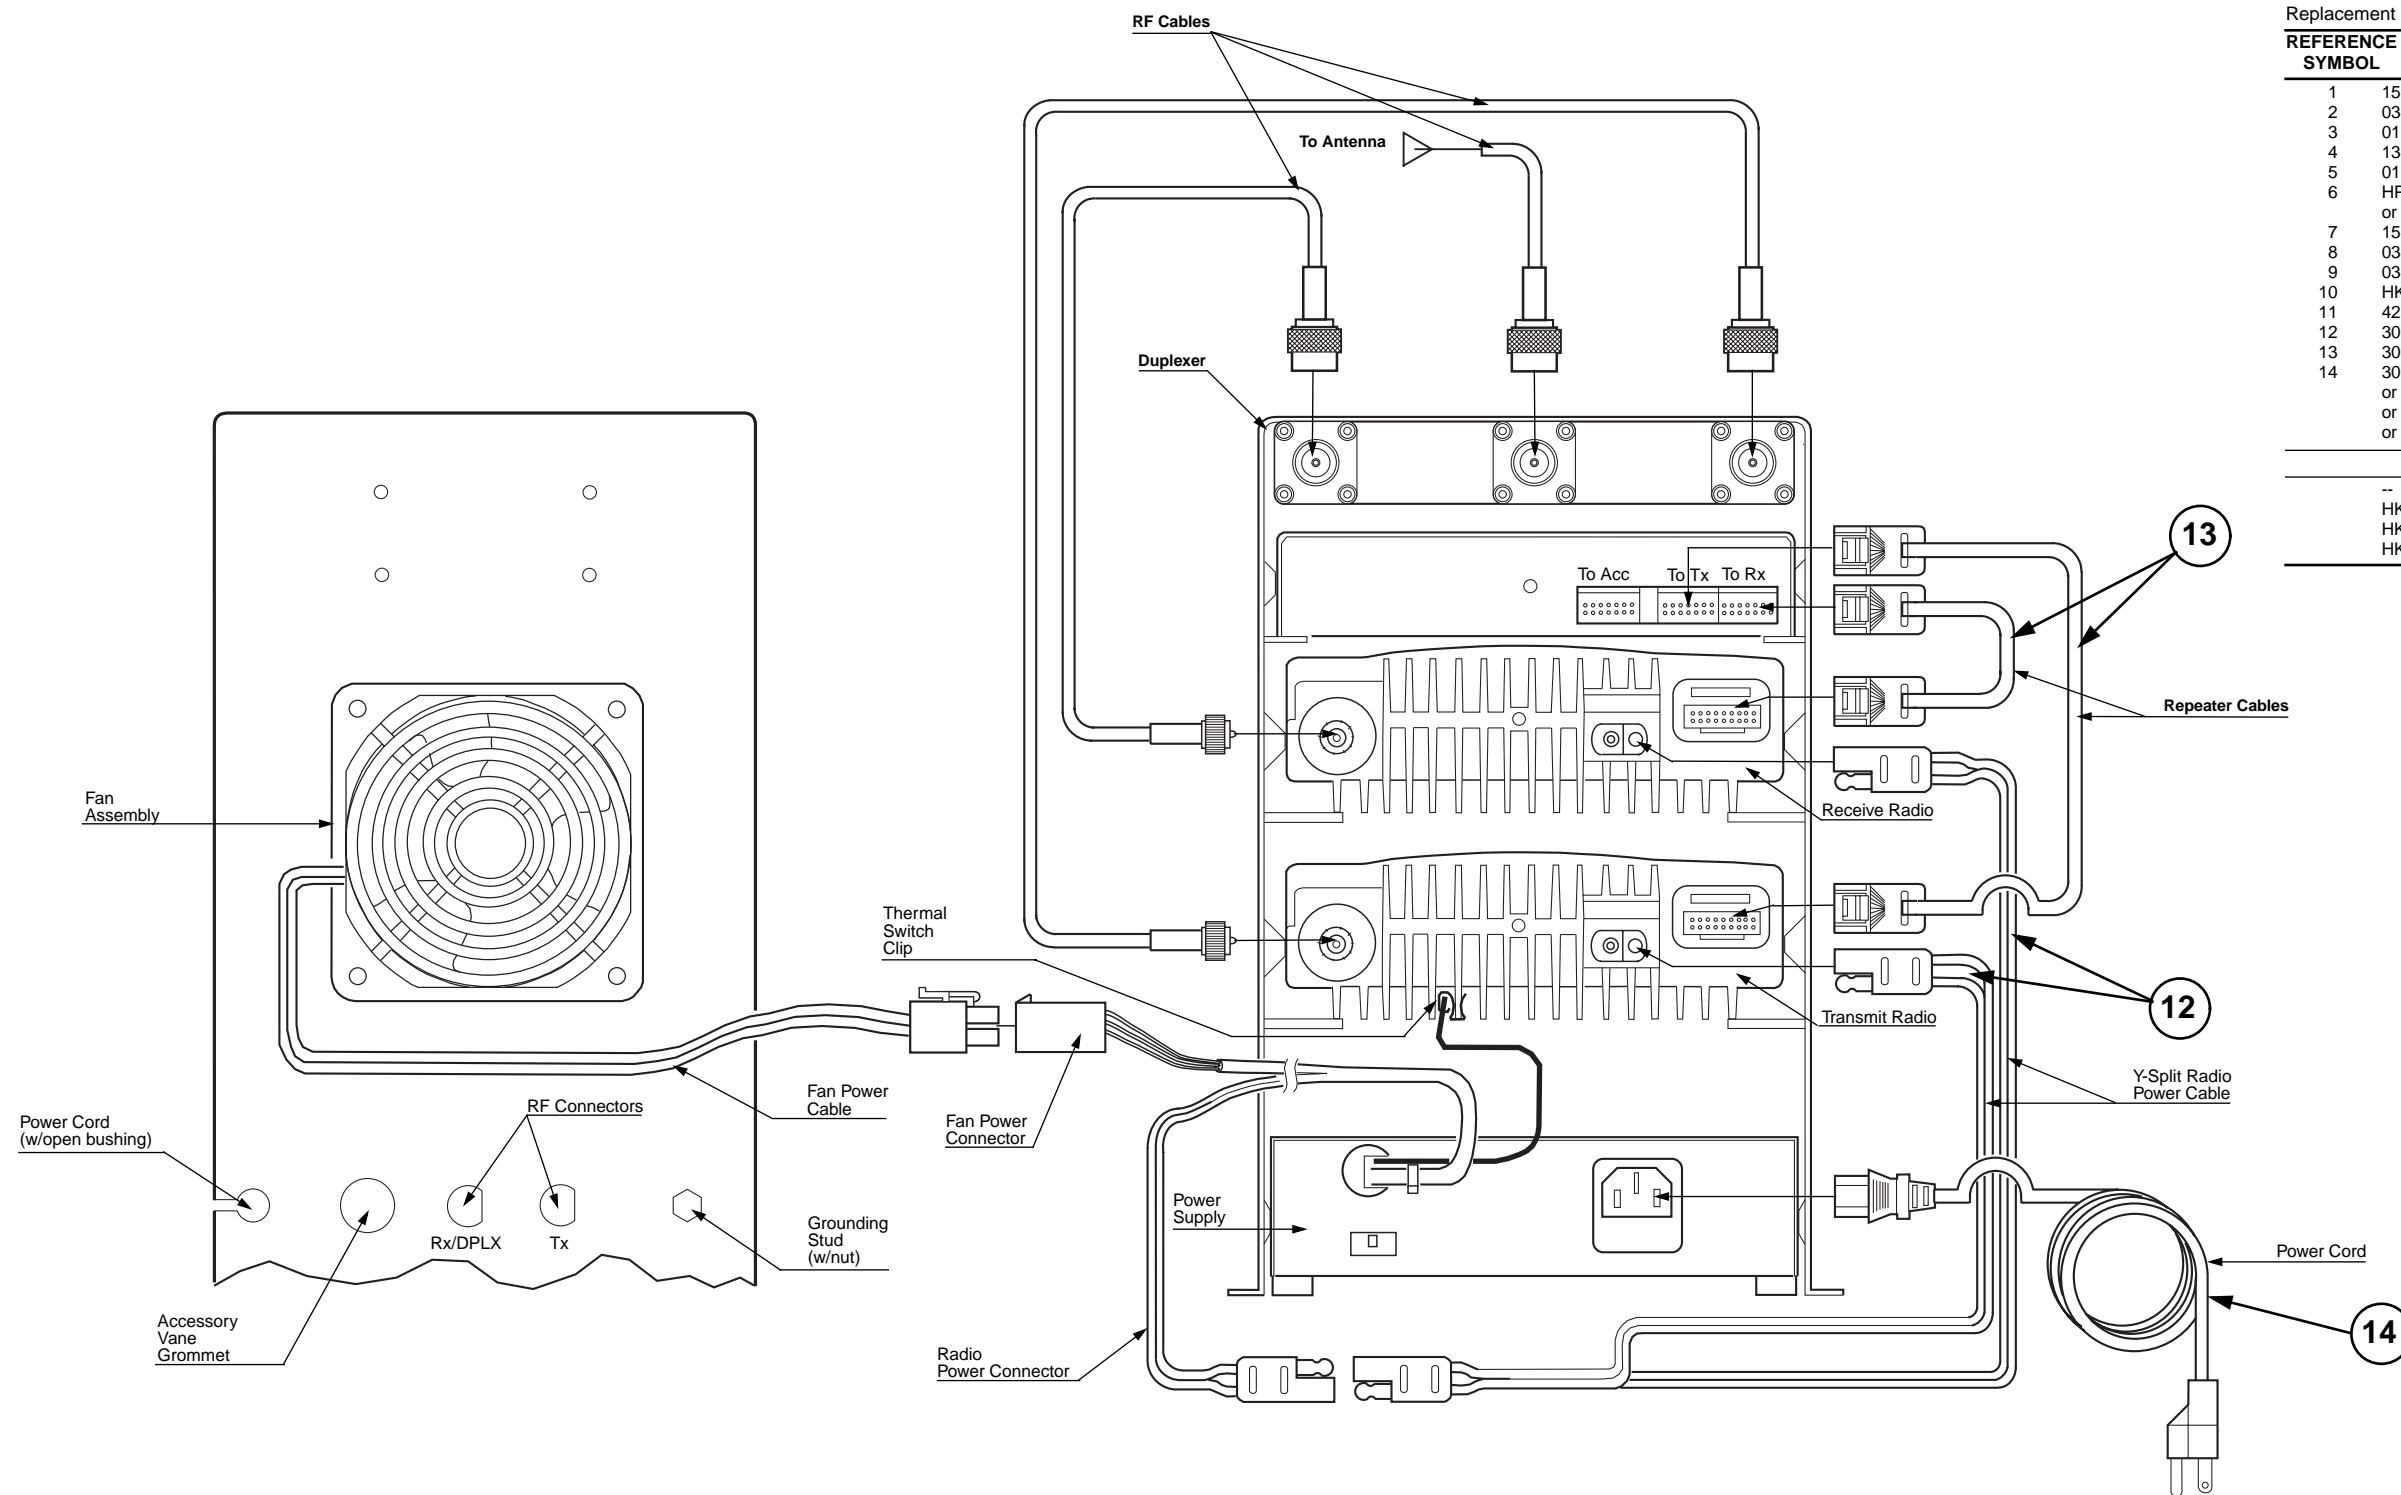

Figure 3-4. CDR700 Interconnect Cabling Diagram
- Connect the receive radio repeater cable to the **Receive** connector of the controller (Figure 3-4 on page 3-6).
- Connect the transmit radio repeater cable to the **Transmit** connector of the controller (Figure 3-4 on page 3-6).